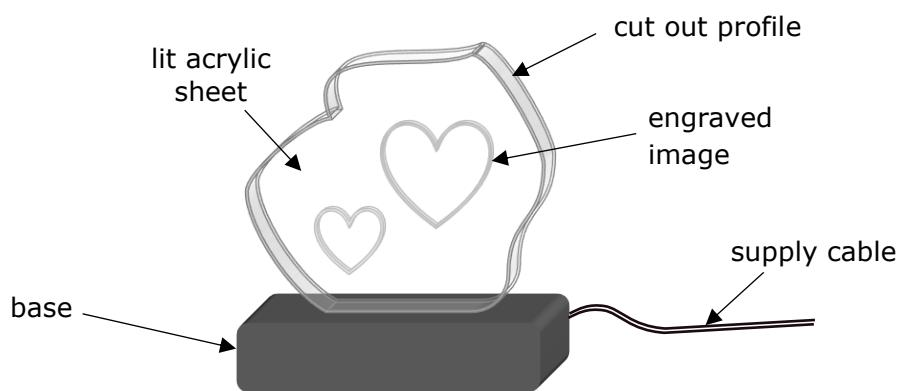
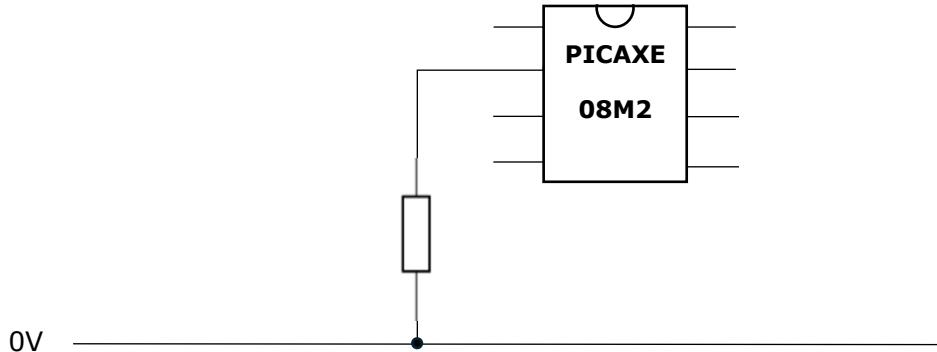
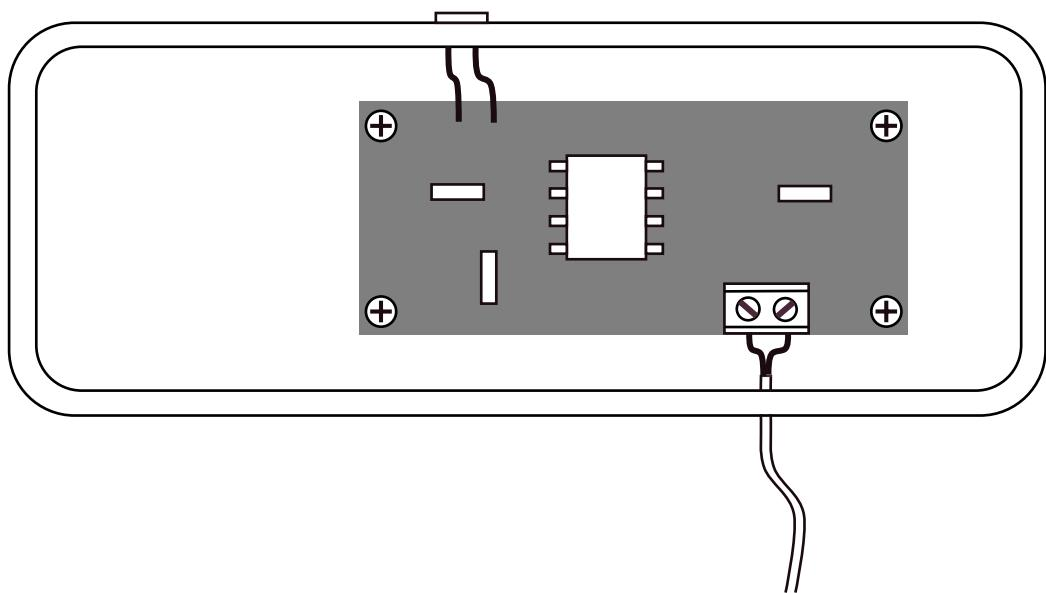

Figure 2
Figure 4
Figure 5
13. Figure 2 shows a tabletop decorative lamp. The lighted part of the lamp is made from sheet acrylic.
18. The lighting system of the lamp shown in Figure 2 consists of an LDR sensor, a microcontroller and an LED. Figure 4 shows an incomplete schematic diagram of the system.
a. Connect a potential divider consisting of the LDR and a resistor to an input of the microcontroller. Draw your answer on Figure 4. (2)
b. Complete the circuit by adding the output and power to the IC. (4)
c. Explain how the system can be modified to become more sensitive to darkness. (2)
19. Figure 5 shows the interior of the base of the lamp.